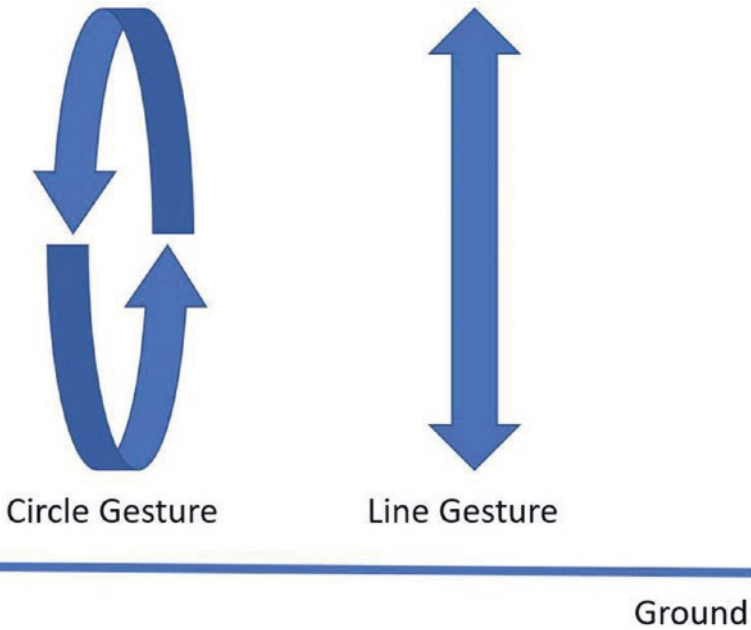

Figure 5-5. Gesture model forms for circle and line
In this section, we will build an AI program from scratch using TensorFlow Lite on the Arduino Nano 33 BLE Sense. This project is modified from <https://github.com/arduino/ArduinoTensorFlowLiteTutorials>. Our scenario is to detect a gesture. For this demo, we want to detect a circle and line gesture movement as shown in Figure 5-5.
Circle and line gestures are movement forms in vertical mode as shown in Figure 5-5. This dataset is generated using the Arduino Nano BLE Sense with IMU sensor. For the training process, we use Python to perform machine learning computation with TensorFlow. You should install Python and some required libraries on your computer to perform the training dataset with TensorFlow.
- Make a movement like the vertical circle shown in Figure 5-5.
For the dataset in Figure 5-7, 31 data samples have been generated. Save these data as circle.csv. Perform a similar task for the vertical line gesture (see Figure 5-5). Copy and paste the result of generating the line gesture to a text editor. Save the file as line.csv.